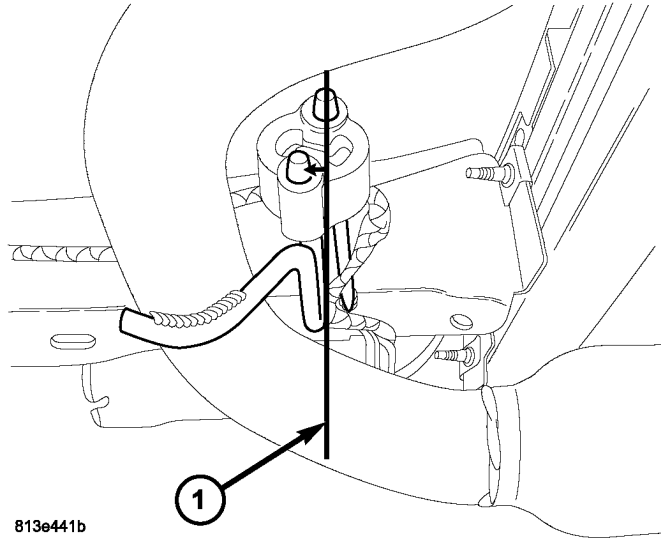

Fig. 2 RIGHT SIDE ISOLATOR ROTATIONAL ORIENTATION AT GREATER THAN 6 O'CLOCK POSITION
5. Force the rearmost positioned exhaust tip forward so the rotational orientation of the exhaust tip isolator is greater than the 6 o'clock position, (Fig. 2).